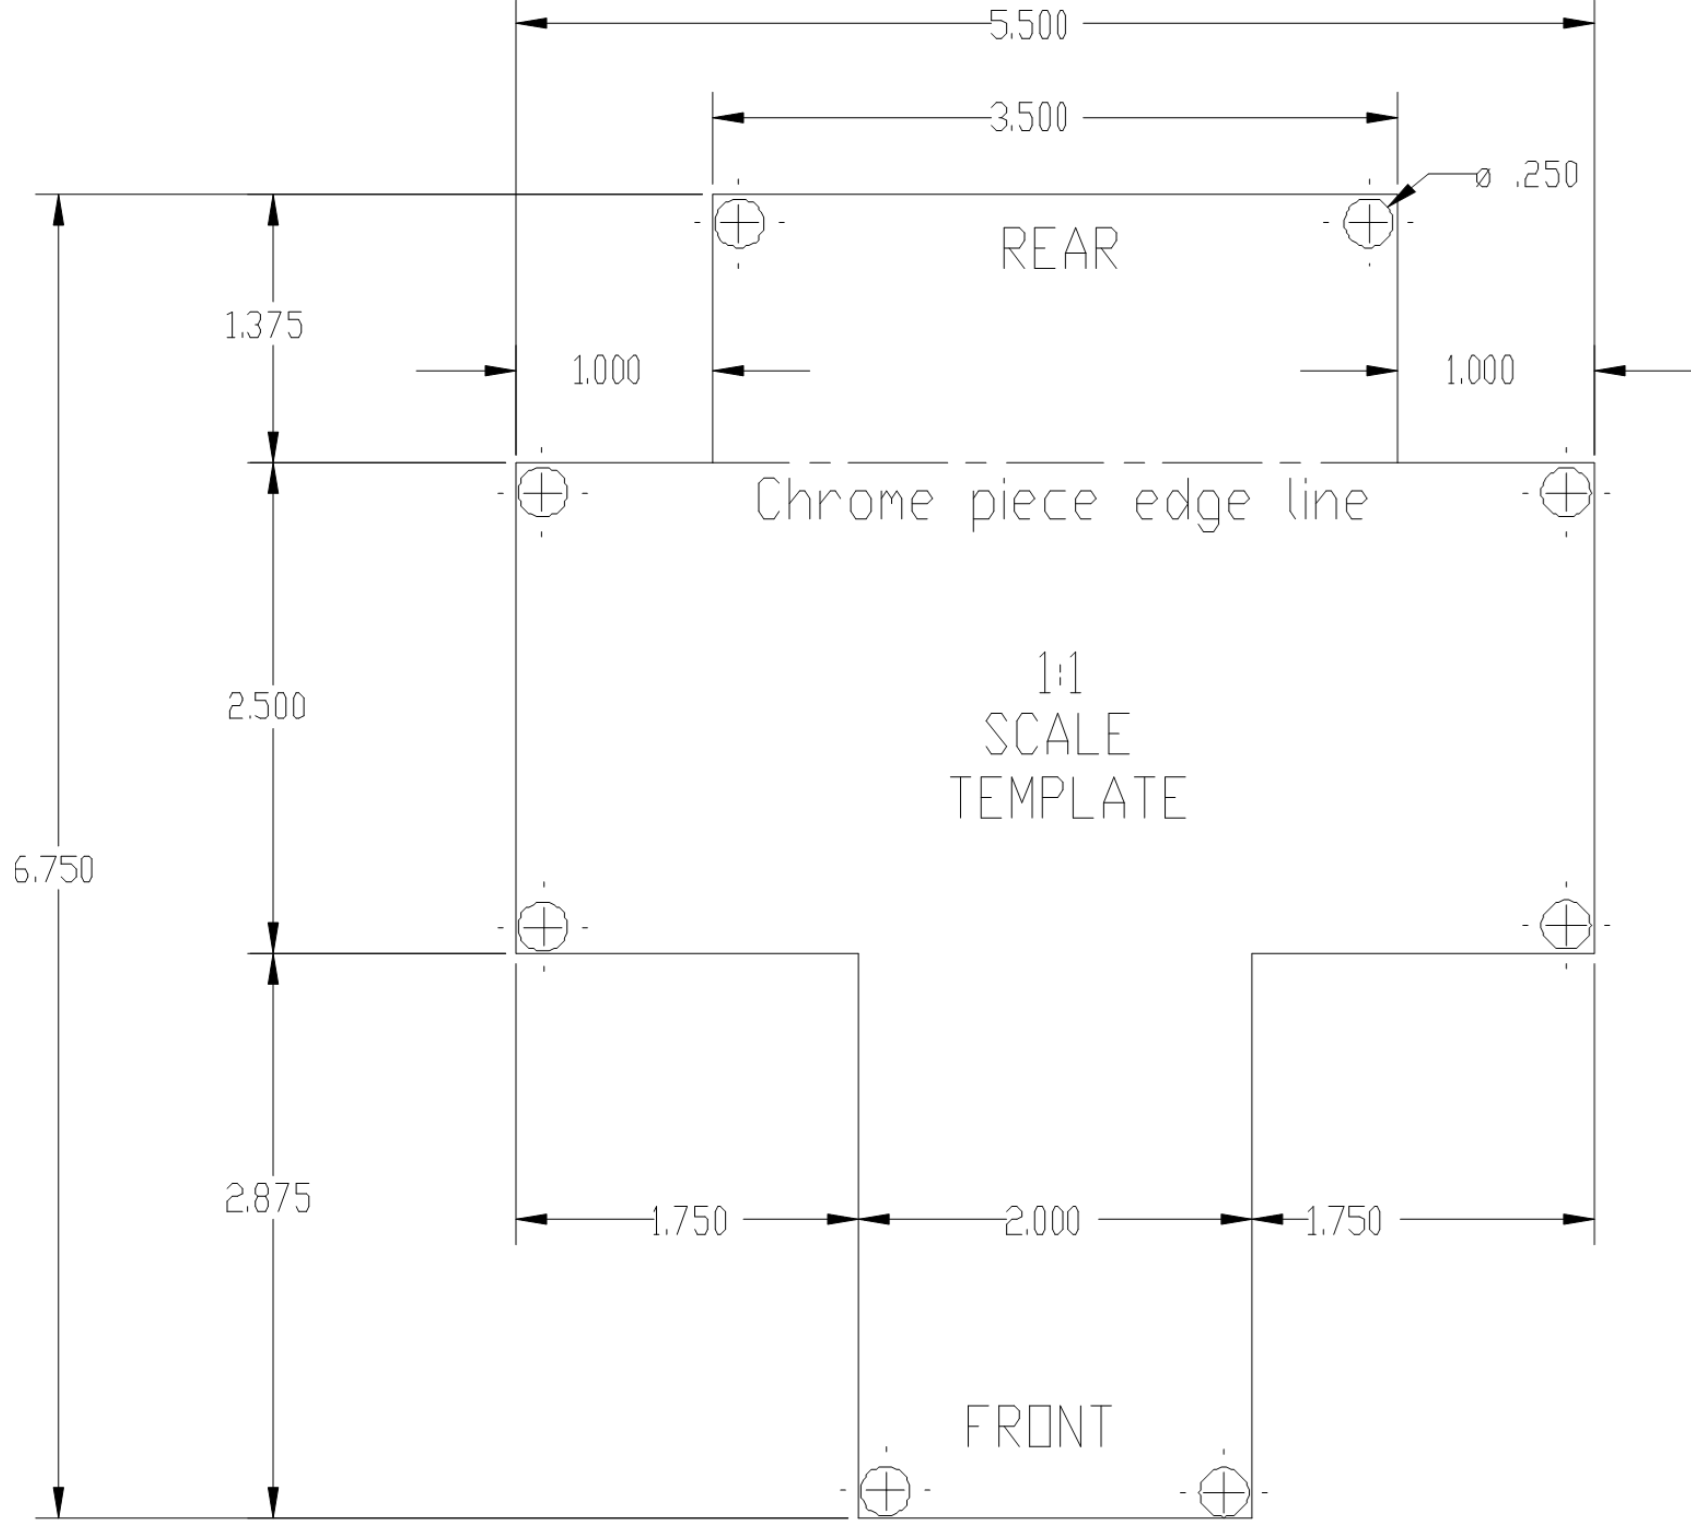

Figure 4
- 4. Trunk panel removal** – (a) open the hatch and remove the interior carpet liner. (b) use plastic trim tools to loosen the weather stripping around the center trunk panel. Detach the center trunk panel from (4) snap clips by pulling it upward. (c) detach curved plastic trunk panel near taillight from (2) snap clips by pulling it towards the center of the trunk each side. (d) behind the carpet liner, temporarily peel off the rectangular adhesive rubber tape both sides. Use 10 mm socket with extension to remove (1) flange nut from the stud on the back of end panel both sides, see Figure 4.
4. Trunk panel removal – (a) open the hatch and remove the interior carpet liner. (b) use plastic trim tools to loosen the weather stripping around the center trunk panel. Detach the center trunk panel from (4) snap clips by pulling it upward. (c) detach curved plastic trunk panel near taillight from (2) snap clips by pulling it towards the center of the trunk each side. (d) behind the carpet liner, temporarily peel off the rectangular adhesive rubber tape both sides. Use 10 mm socket with extension to remove (1) flange nut from the stud on the back of end panel both sides, see Figure 4.